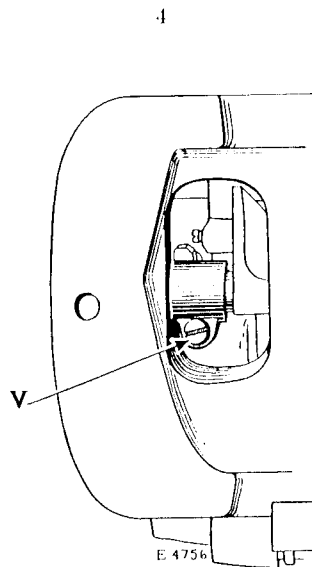

FIG. 4
The looper should be set as close to the needle as possible. To change the sidewise position of the looper in relation to the needle, loosen the clamping screw (V, Fig. 4) in the lower end of the forked connection underneath the bed of the machine and swing the looper carrier to the required position, then securely tighten the clamping screw (V).